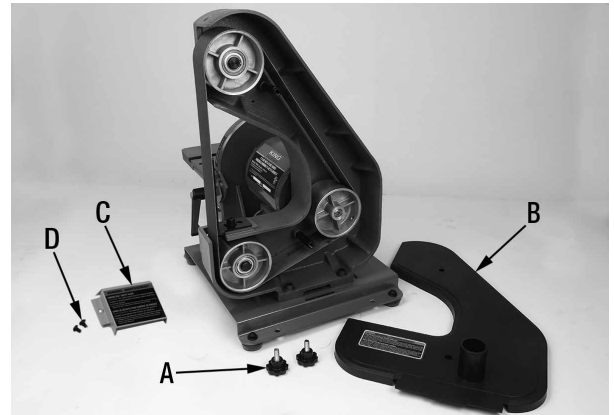

Figure 11
1. Loosen and remove two belt cover lock knobs (A) Fig.11, then remove belt cover (B) as shown. Remove safety guard (C) and 2 pan hd screws (D).
5. Install belt cover (B) Fig.11 and secure it in place using the two lock knobs (A) removed previously.